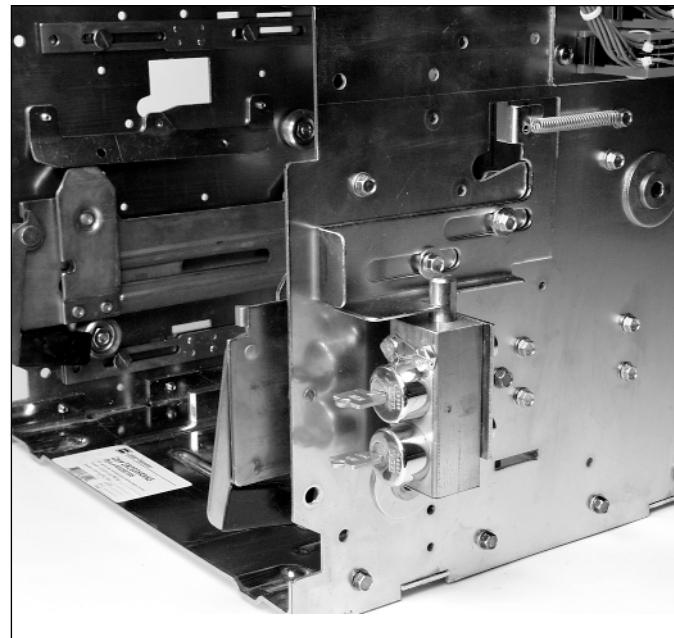

Figure 3-58 Cassette Mounted Key Lock
**Cassette Lock** - A cassette mounted lock can be used in conjunction with different interlocking schemes (such as main-tie-main) (Figure 3-58). The lock holds the circuit breaker trip-free in the connected position, preventing it from being closed.